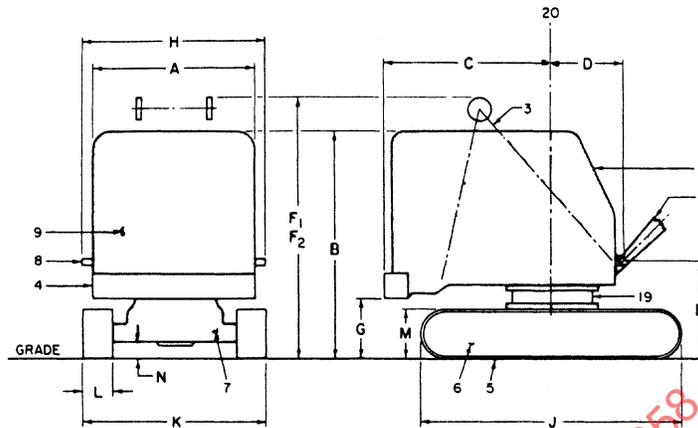

FIGURE 3—CRAWLER MOUNTING WITH REVOLVING SUPERSTRUCTURE
### 3.1 Dimensions—For revolving superstructure dimensions, see Figure 3 (A-F2).
### 3.2 Definitions—For revolving superstructure definitions, see Figure 3 (2-4).
4. Crawler Mounting with Revolving Superstructure—See Figure 3.